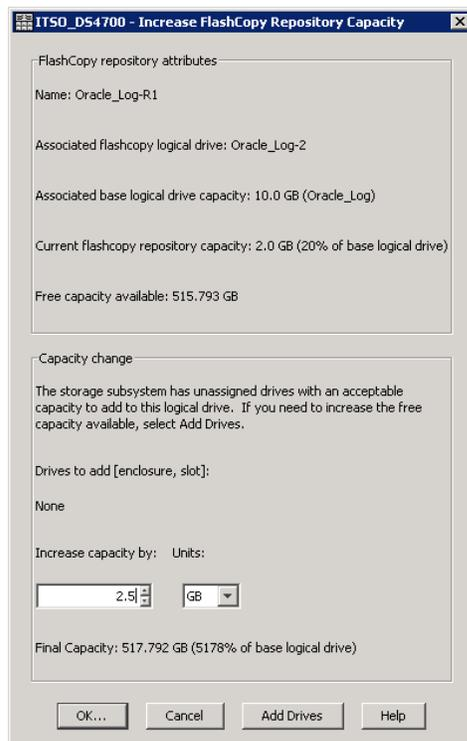

Figure 7-32 Increase FlashCopy Repository Capacity
- First method: Increase FlashCopy repository logical drive capacity using free capacity on the array of the FlashCopy repository logical drive (Figure 7-32).
- ii. In the Increase FlashCopy Repository Capacity window (Figure 7-32 on page 428) select **Add Drives**.